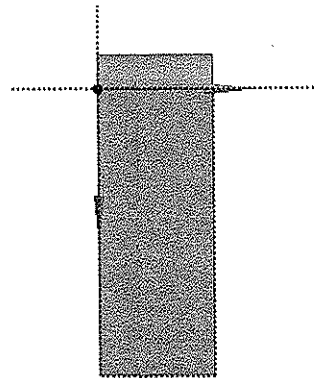

Figure 9-38 New plane created on the left face of the model
- Choose the **Faces** button from the **Select** toolbar and then select the left face of the model, refer to Figure 9-38.
- Create a new plane on the selected face by using the **New Plane** tool from the **Active Plane/Sketch** toolbar, refer to Figure 9-38.